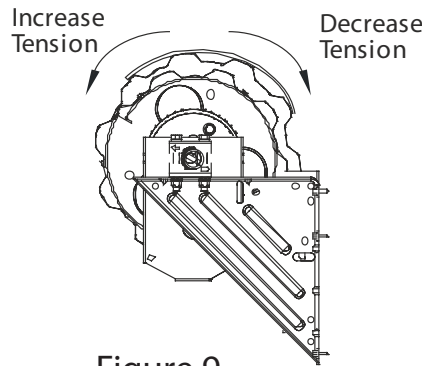

Figure 9
- C. Adjust spring tension (Figure 9) according to the following procedure: